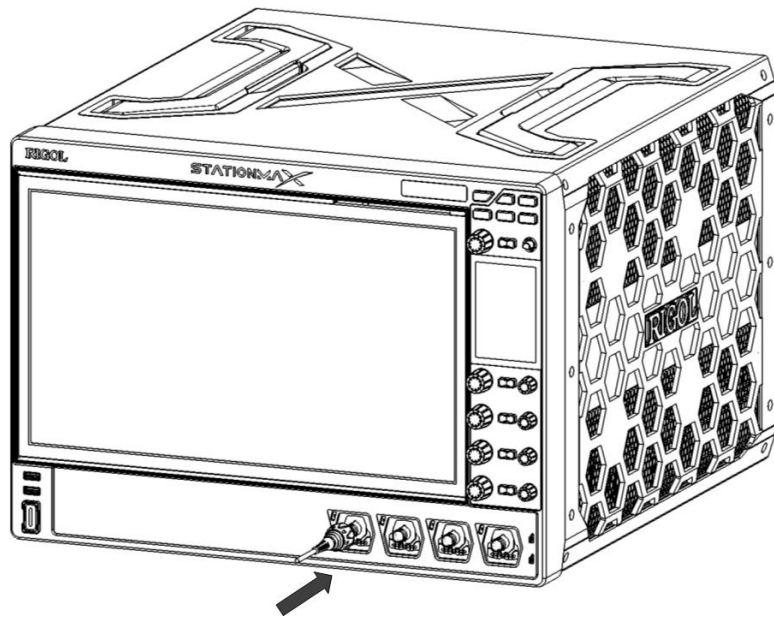

Figure 5.2 To Connect the Passive Probe
- 1 Connect the BNC terminal of the probe to an analog channel input terminal of the oscilloscope on the front panel as shown in *Figure 5.2*.